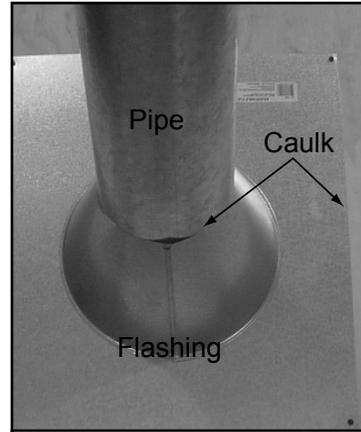

Figure 8.14
- Caulk between the pipe and the top of the roof flashing and around flashing at roof. See Figure 8.14.